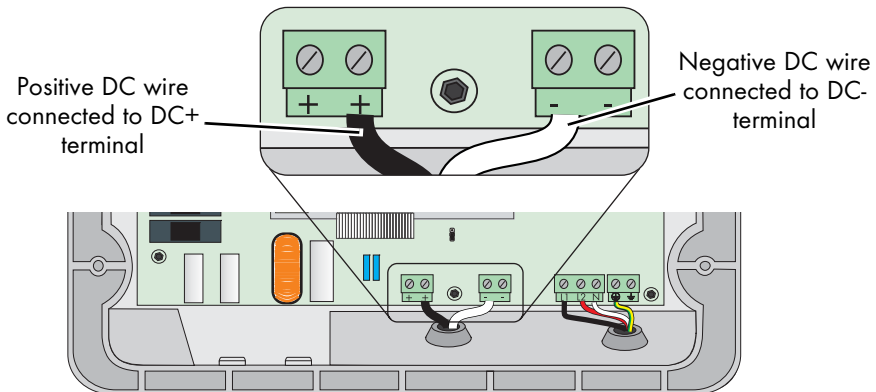

Figure 5-10 DC Connection Terminals
3. Install a 3/4-inch conduit fitting in the Sunny Boy's DC wiring knockout (see Figure 5-1 and Figure 5-10). Fasten the conduit fitting on the inside of the Sunny Boy with the appropriate locknut.
Note: Refer to Figure 5-10 for steps 5 through 7.